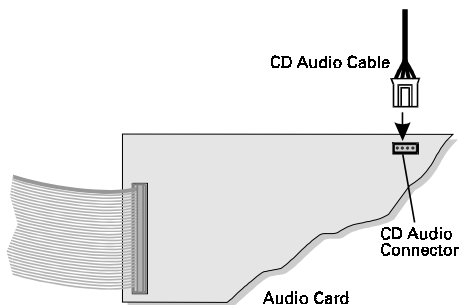

Figure 2-11: Connecting CD audio cable to the audio card.
2. Connect the CD audio cable to your audio card as shown in Figure 2-11.